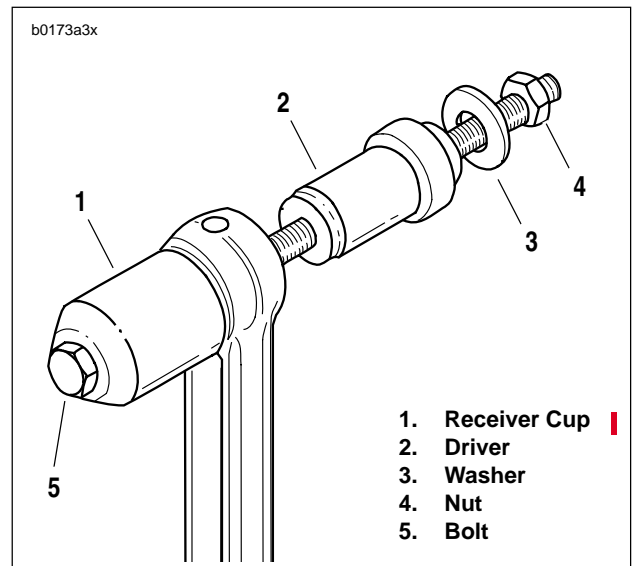

Figure 3-39. Piston Pin Bushing Tool Assembly for Bushing Removal
3. See Figure 3-39. Attach PISTON PIN BUSHING TOOL (Part No. HD-95970-32C) to the connecting rod. The receiver cup (1) fits on one side of the rod while the driver (2) fits on the opposite side as shown.